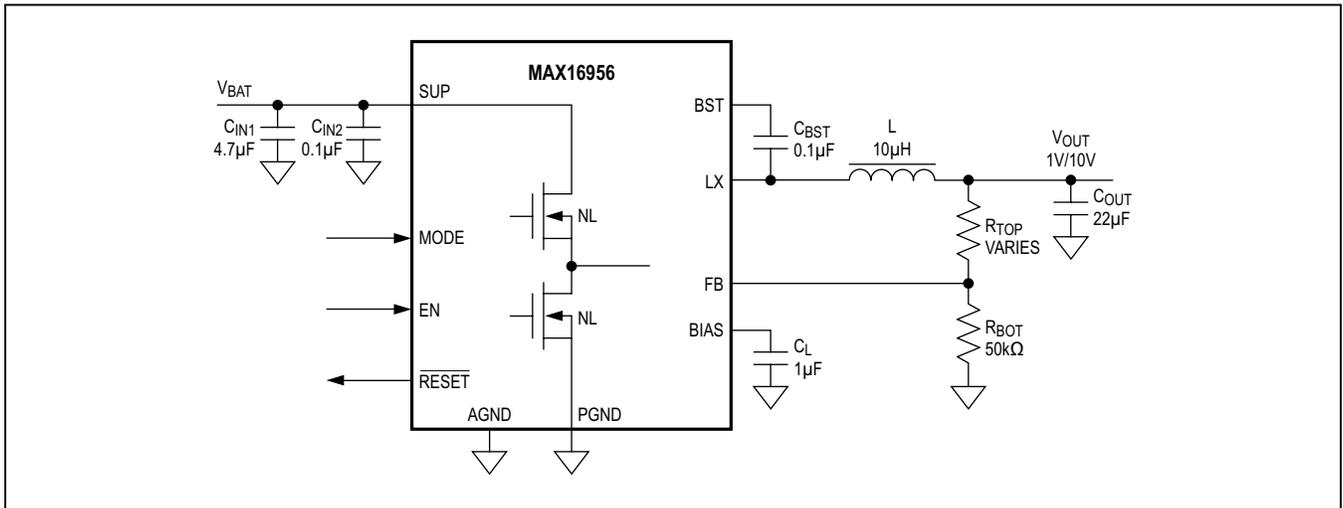

Figure 3. MAX16956AUBC/V+, Variable Output Voltage, 10-Pin µMAX
- 1) The input capacitor (4.7 $\mu$ F, see Figures 3 and 4) should be placed immediately next to the SUP pin of the device. Since the device operates at 2.1MHz switching frequency, this placement is critical for effective decoupling of high-frequency noise from the SUP pin.